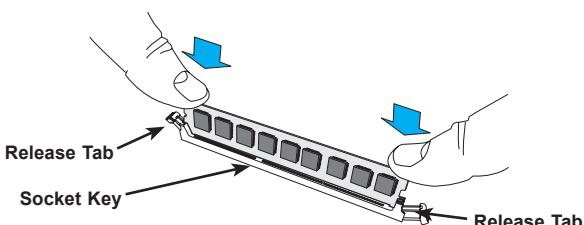

Figure 5-2. DIMM Installation
1. Push the release tabs outwards on both ends of the DIMM slot to unlock it. Insert each DIMM module vertically into its slot. Pay attention to the key along the bottom of the module to avoid installing incorrectly (Figure 5-2).